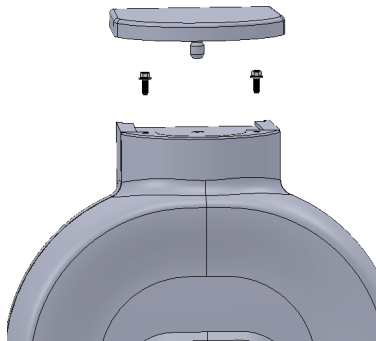

Figure 45
- Fix the base unit front cover by fixing two M3x6 HSHC screws along with M3 washers on top using 2.5mm allen key as shown in Figure 45 and M3x25 self tapping screw on front bottom side using phillips screw driver as shown in Figure 46. Fix the rubber cap on top and rubber plug at bottom screw location.